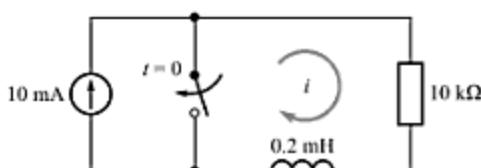

Fig. E-18
- E-23.** A current source is placed in series with a resistor and an inductor, as shown in Fig. E-18. During this period, the switch is open. The switch is closed at  $t = 0 \text{ s}$ , so that the circuit is separated into two independent loops that share a common short circuit but do not interact. Find the current in the right-hand loop after the switch closes.